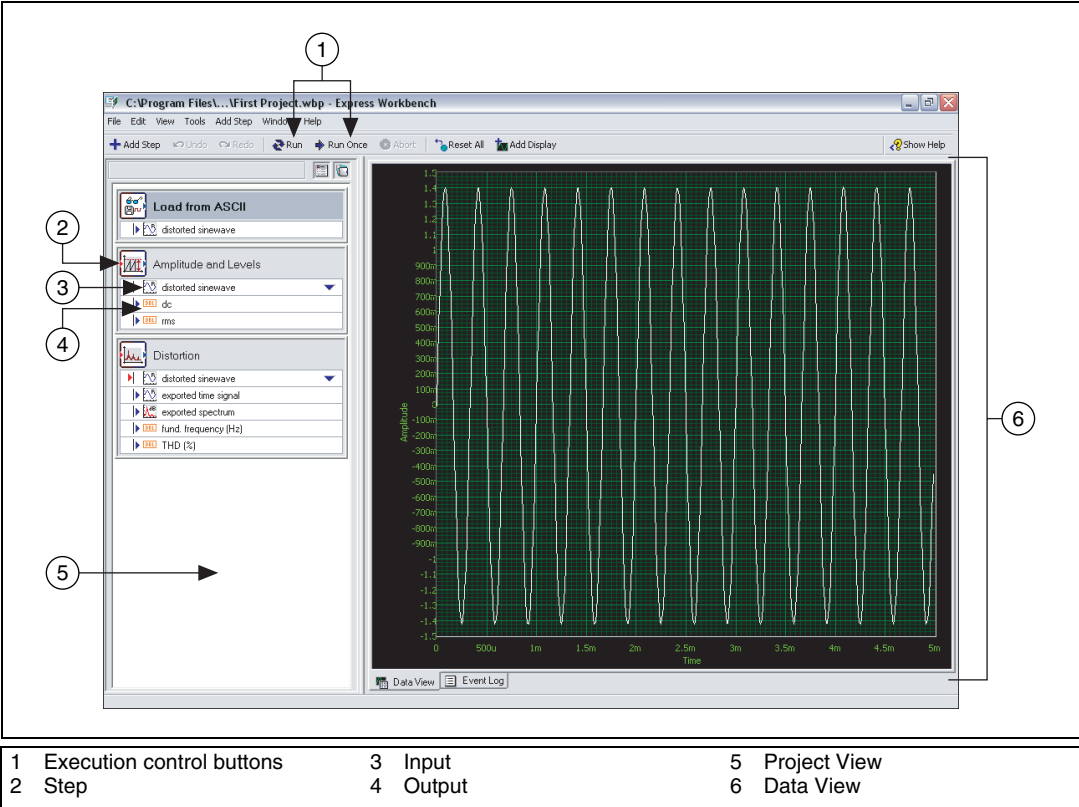

Figure 4-1. First Project.wbp
3. Examine the dialog box that launches, as shown in Figure 4-1, to learn about the different components of NI SignalExpress Tektronix Edition.